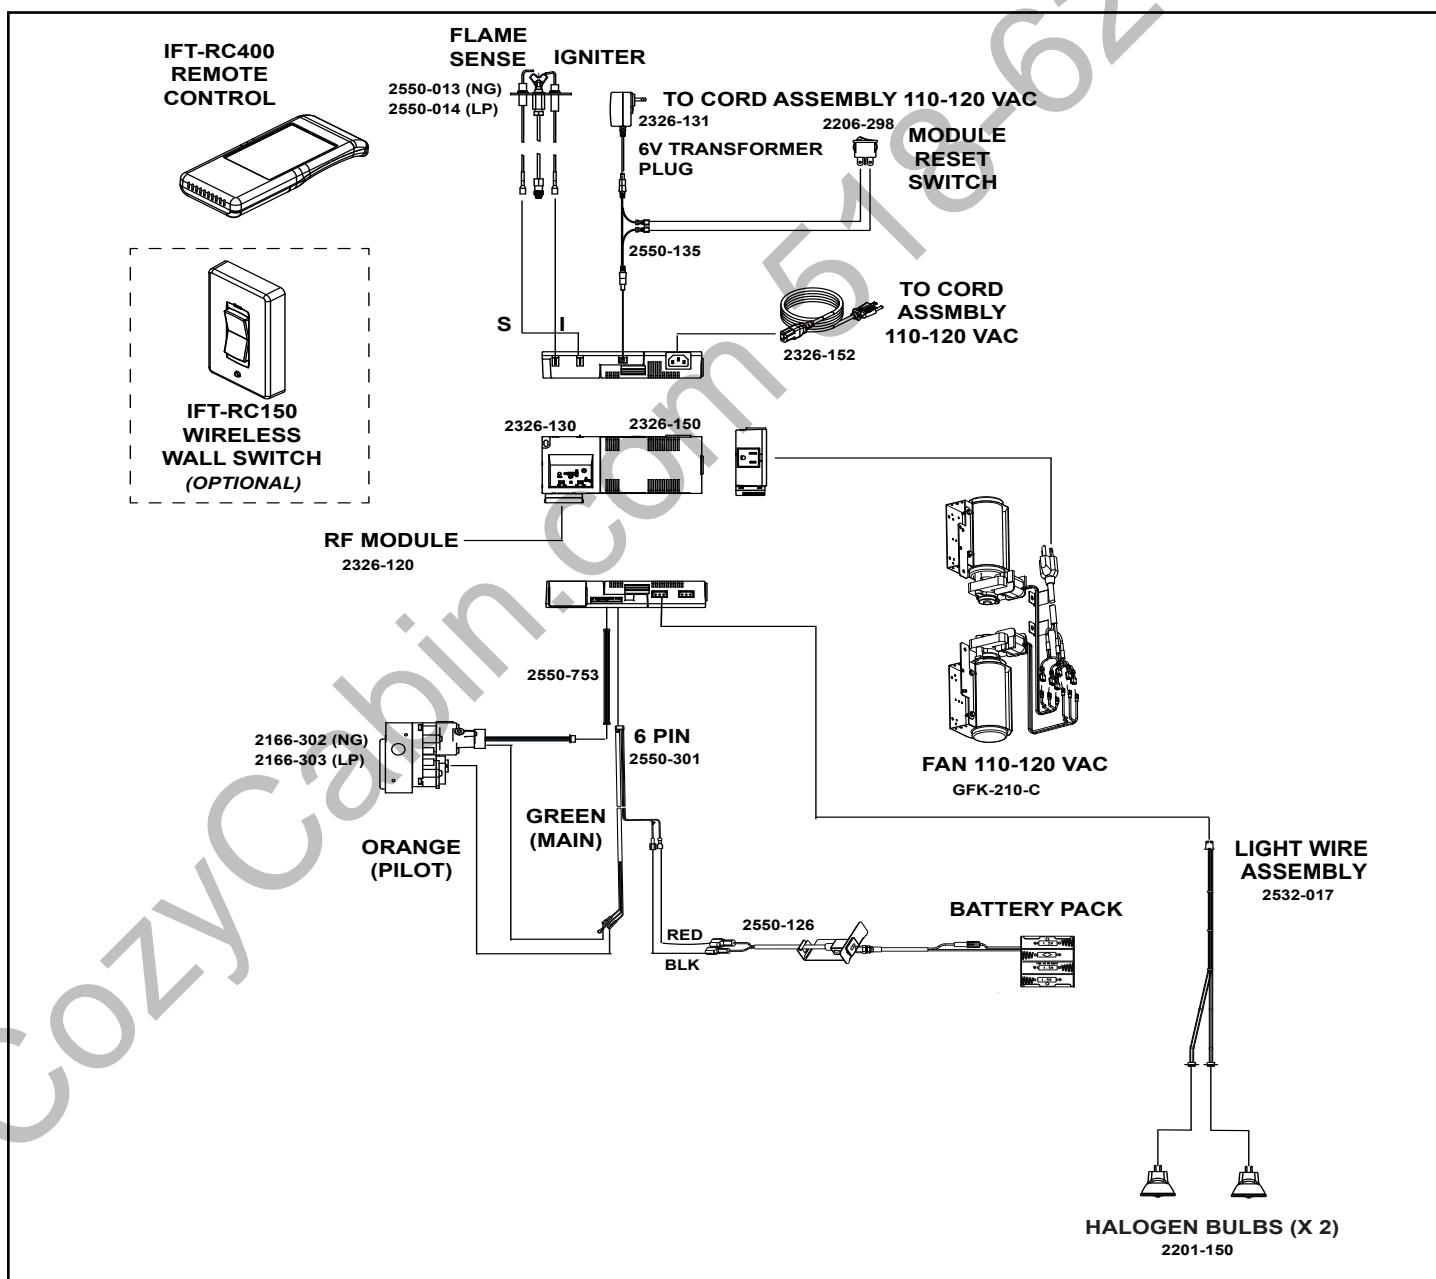

Figure 8.2 IntelliFire Touch Wiring Diagram
- Refer to Figure 8.2, IntelliFire Touch (IFT) Wiring Diagram.